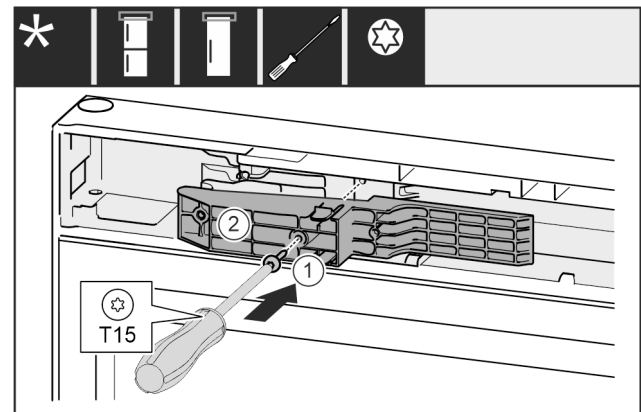

Fig. 54 *
- ▶ Insert the adapter piece Fig. 54 (1) on the handle side into the recess.*
- ▶ Tighten the screw Fig. 54 (2) with the screwdriver.*